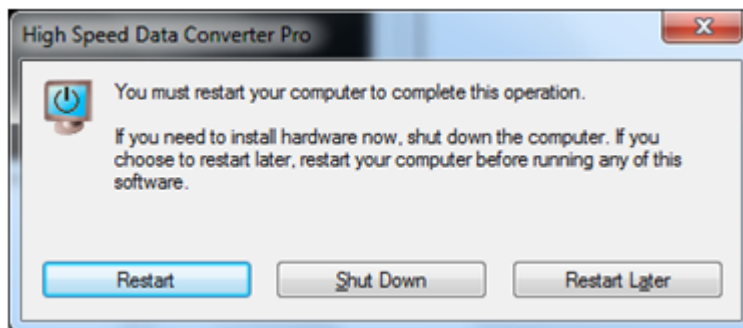

Figure 10. HSDCpro Install (i)
- As shown in Figure 10, a computer restart might be requested depending on whether or not the PC already has the National Instruments' MCR installer. If requested, hit the *Restart* button to complete the installation.